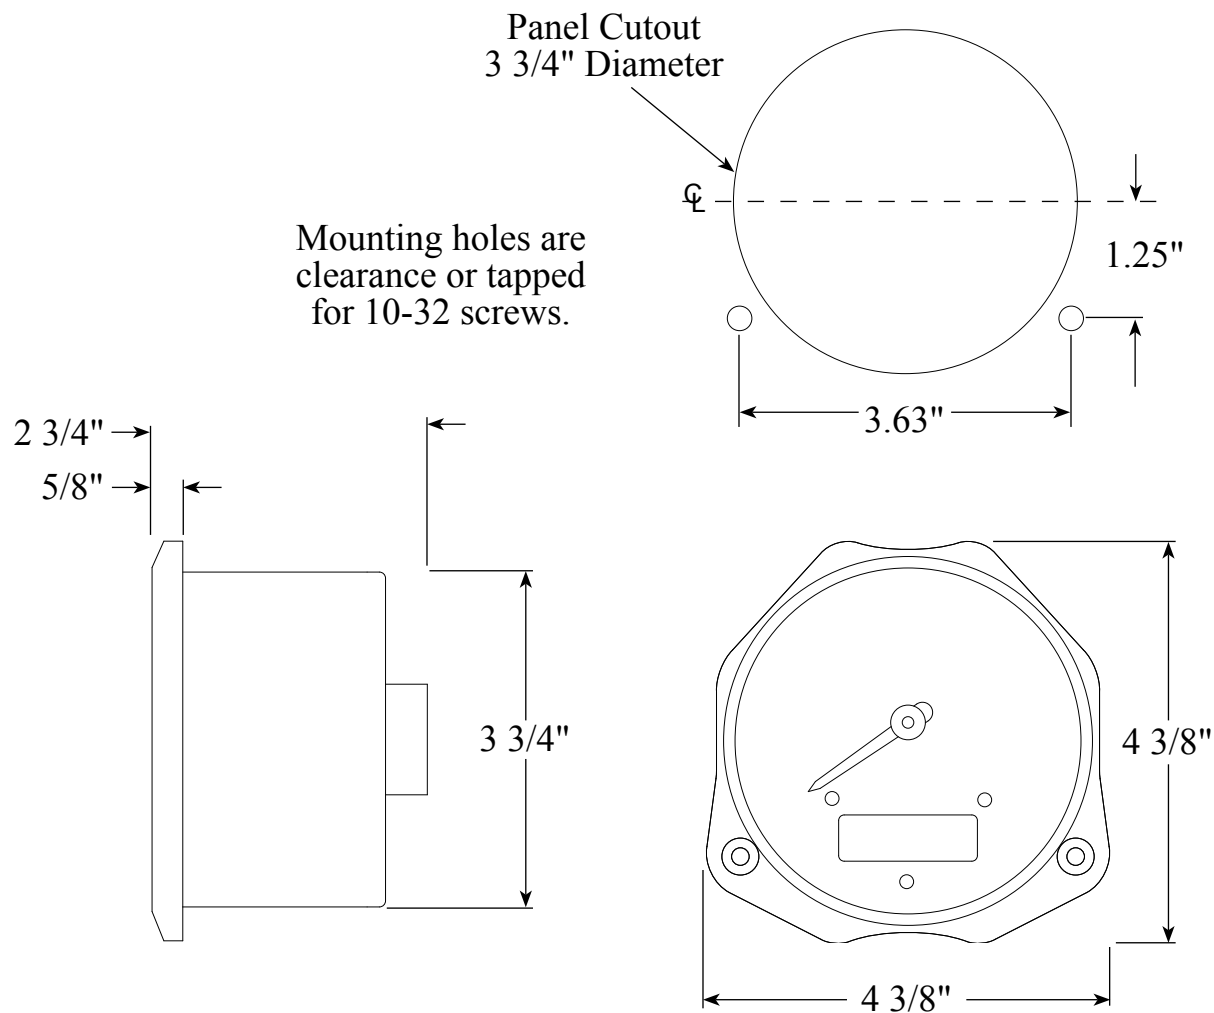

Figure 2. Display Module Mounting Dimensions
1. Measure and mark mounting location for display module panel cutout and mounting screw holes. Make sure there is clearance behind the panel for the display and cables before cutting holes. Refer to Figure 2 for layout and dimensions.